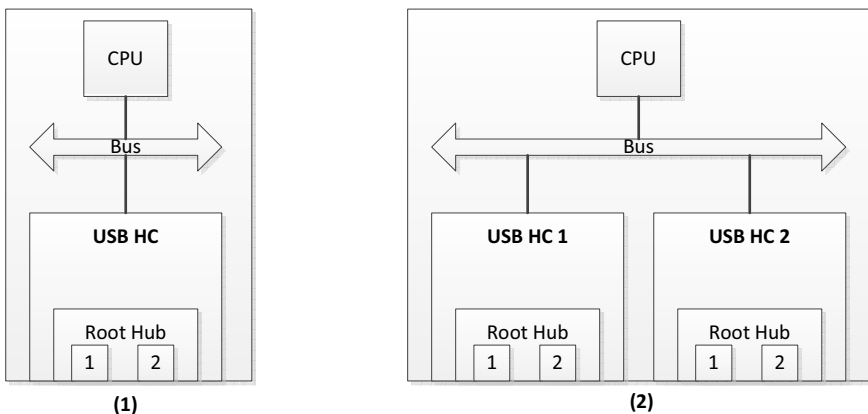
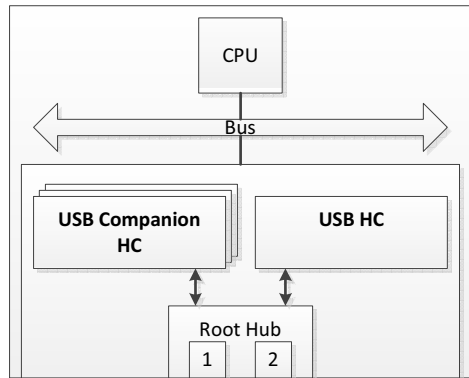

Figure 4-2 Typical Host Controller Architectures
Figure 4-3 Multi-Host Architecture
Once the Host Controller (HC) configuration structure is ready, you will be able to add your HC to the  $\mu$ C/USB-Host stack and to start its operations. Figure 4-2 and Figure 4-3 introduce some typical HC architectures within a microcontroller.
Figure 4-3 gives another example of a multi-host architecture. Here, a main HC shares a root hub with one or more other HCs. The other HCs are called *Companion* controllers. You may find this type of architecture with EHCI and OHCI controllers where the main host controller would be an EHCI controller and companion controllers would be OHCI controllers. In general, an embedded systems' microcontroller will have one EHCI associated with one OHCI. An EHCI controller can only be in charge of high-speed devices. Low- and full-speed devices are handled by the OHCI controller(s). Refer respectively to *Enhanced Host Controller Interface Specification for Universal Serial Bus, Revision 1.0, March 12 2002* and *OpenHCI Specification for USB, 09/14/99, Release 1.0a* for more details about EHCI and OHCI controllers respectively.
The template file `app_usbh.c` shows an example of HC initialization in the function `App_USBH_Init()`. Listing 4-3 presents the body of this function. The example in this function corresponds to a single HC architecture as shown in Figure 4-2 (left drawing). The example can be easily extended to describe the multi-host architecture shown in Figure 4-2 (right drawing).
Listing 4-4 illustrates a multi-host initialization corresponding to Figure 4-3. In this example, a multi-host architecture composed of one EHCI and one OHCI is considered.